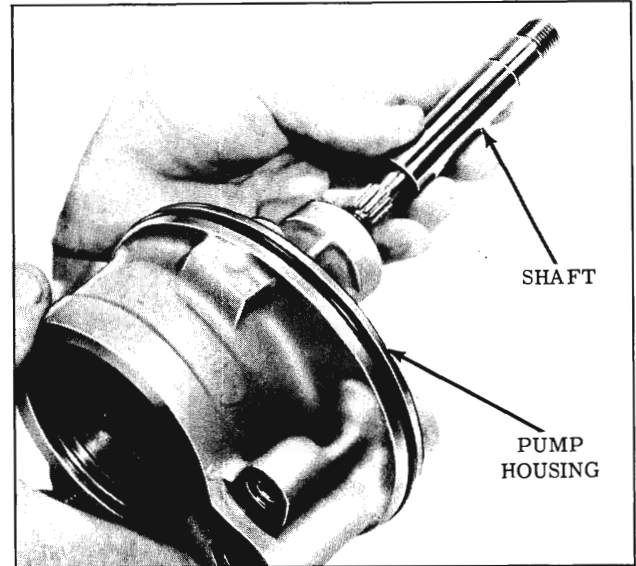

Fig. 4-237 Removing Shaft
12. Remove shaft through front of housing. (Fig. 4-237)